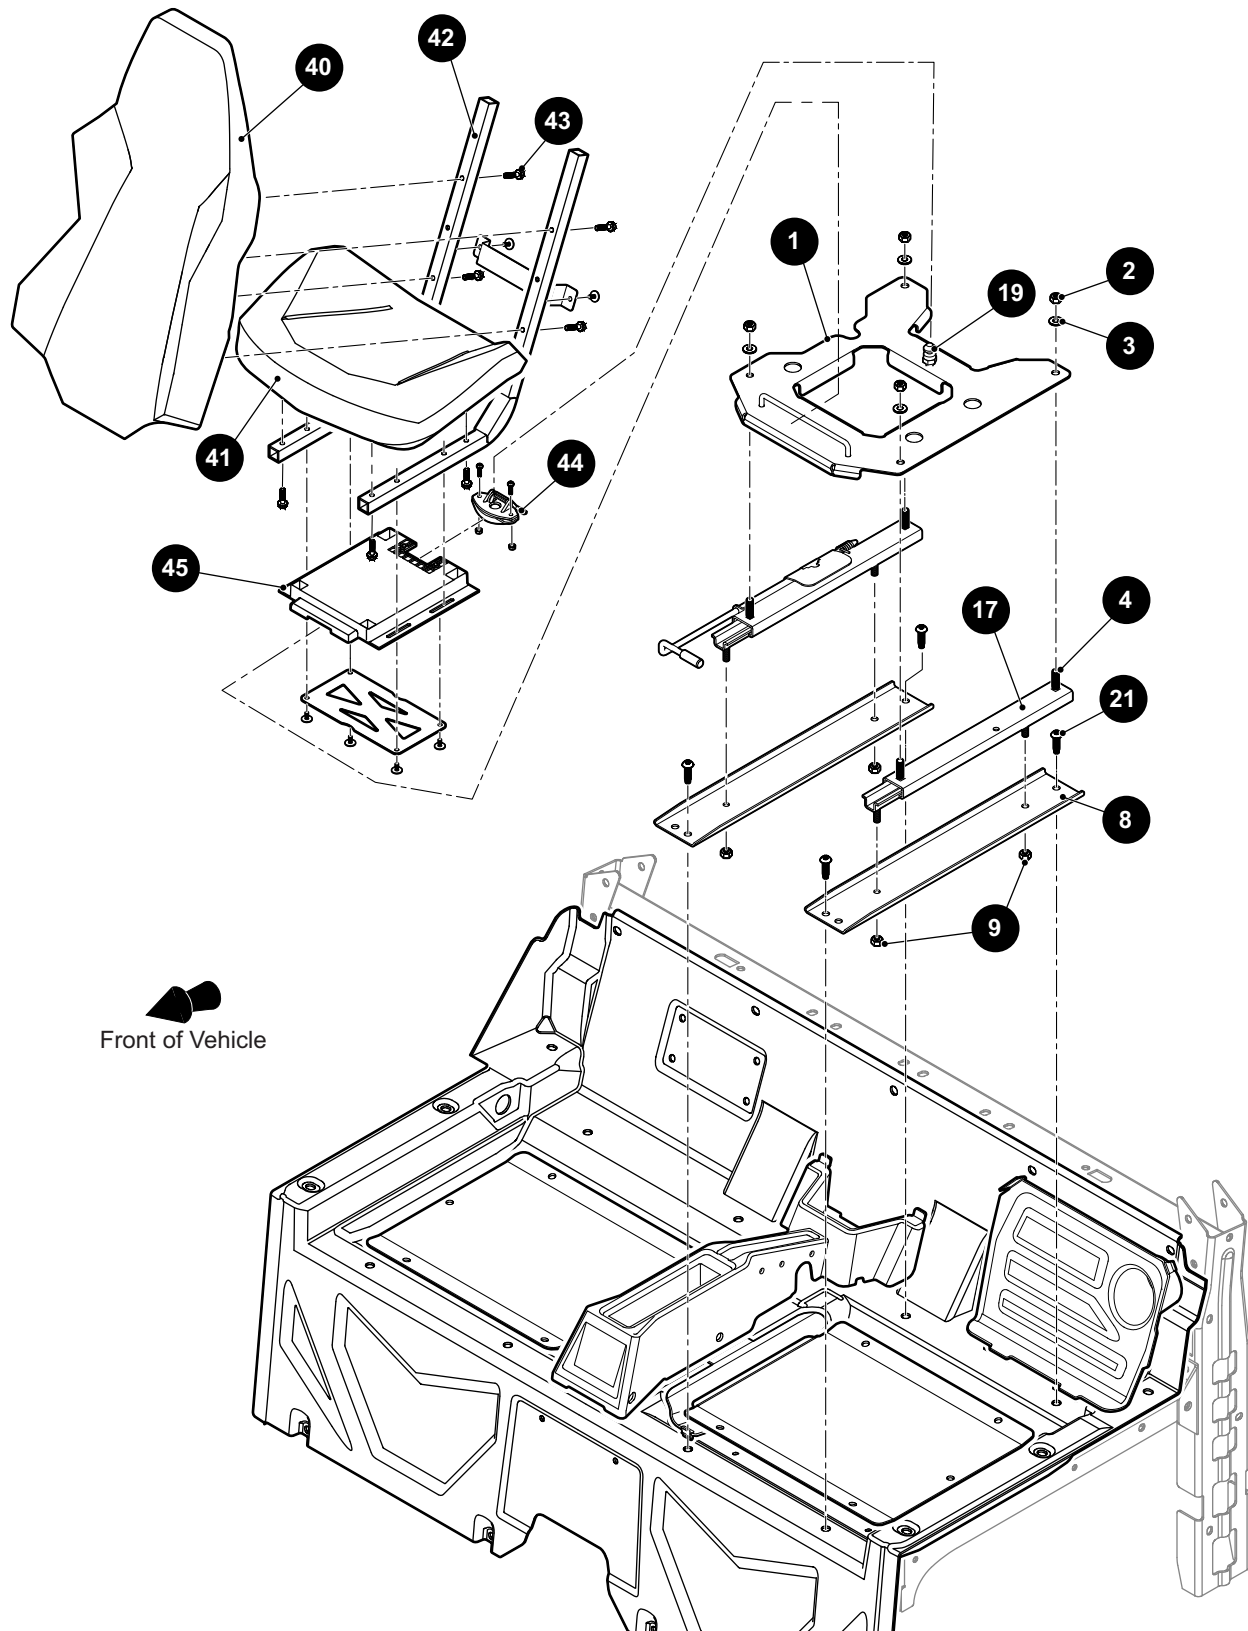

Fig. 12 Seat Components
1. Press the lever on the seat latch (44) while rotating the seat forward.
2. Slide the seat backward until the tab on the seat latch mount (45) clears the bar on the seat plate (1).
3. Pull the seat up and out of the vehicle. (See Fig. 12)
4. To install the seat assemblies, insert the tab of the seat latch mount (45) into the bar of the seat plate (1).
5. Rotate the seat down until the seat latch (44) locks into place on the seat latch stud (19).
1. Remove the four bolts (43) that secure the seat back (40) to the seat back supports (42) (See Fig. 12).
1. Remove the four bolts (43) that secure the seat bottom (41) to the seat back supports (42) (See Fig. 12).
1. Remove the four bolts (4), washers (3) and nut (2) that secure the seat plate (1) to the seat sliders (17) (See Fig. 12).
1. Remove the nuts (9) that secure the seat sliders (17) to the seat back C-channels (8) (See Fig. 12).
3. Remove the bolts (21) that secure the C-channels to the seat frame.